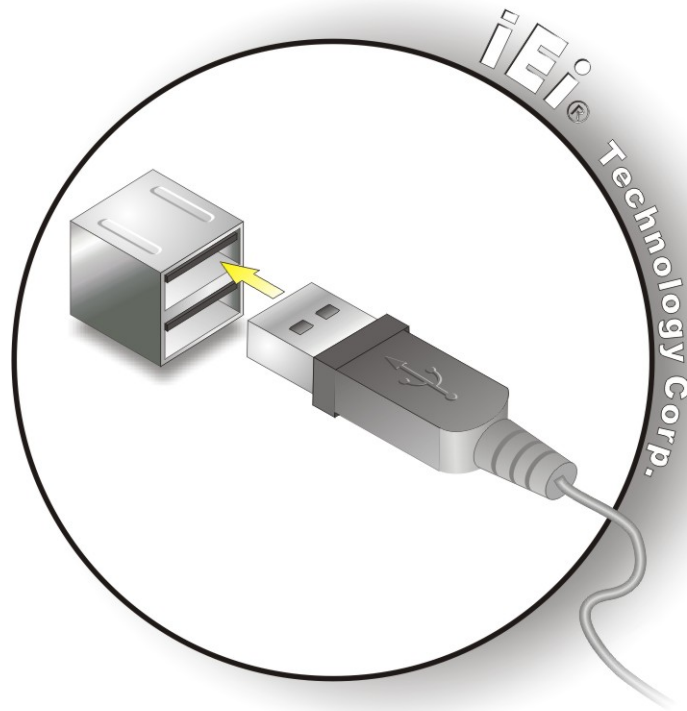

Figure 4-16: USB Connector
Step 2: **Insert a USB Series "A" plug.** Insert the USB Series "A" plug of a device into the USB Series "A" receptacle on the external peripheral interface. See **Figure 4-16**.